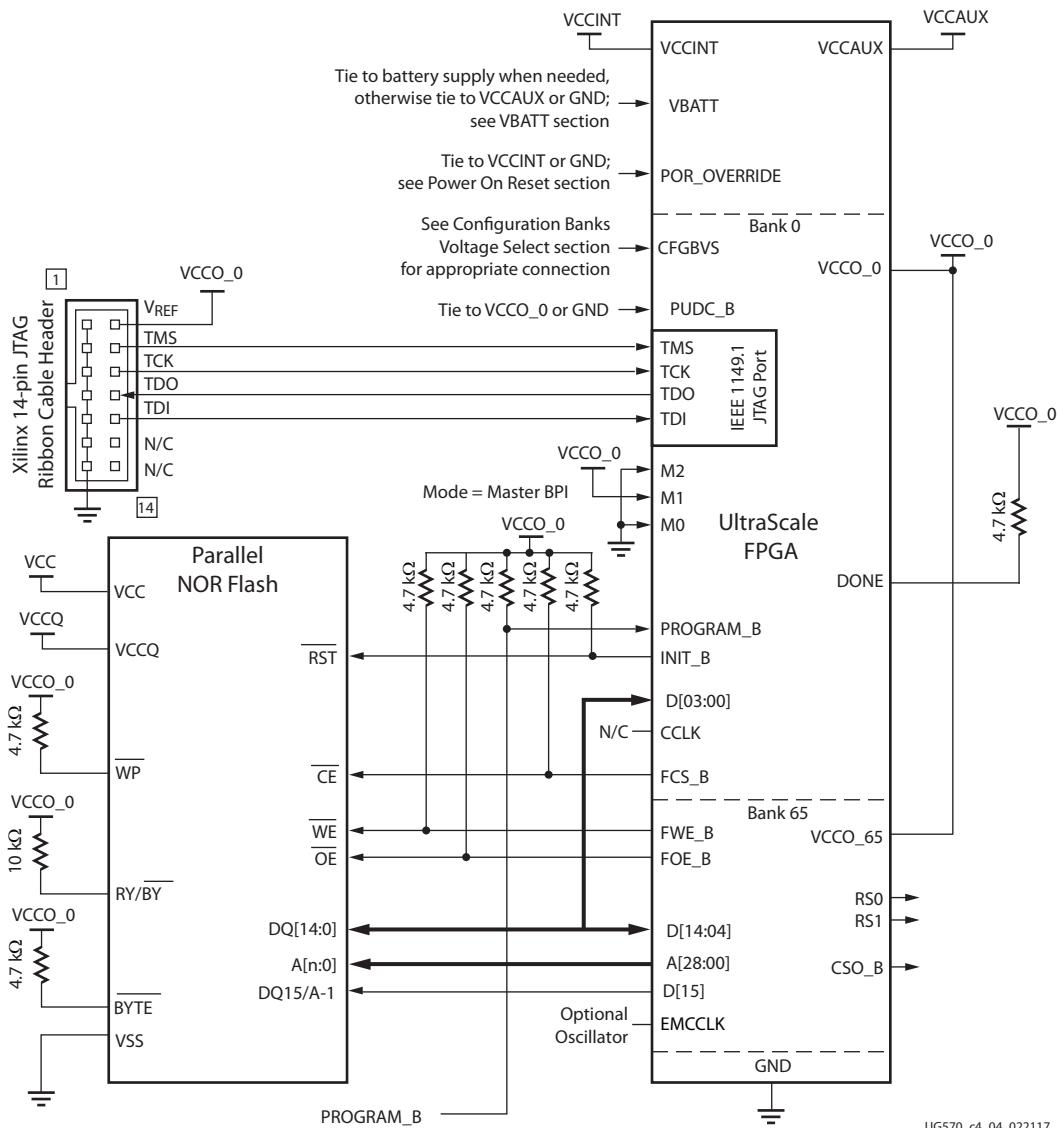

Figure 4-4: Master BPI Configuration Interface Example for x16 Asynchronous Read
The master BPI configuration interface is represented in Figure 4-1. Detailed connections between the FPGA and the parallel NOR flash for master BPI configuration mode are shown in Figure 4-2 and Figure 4-4. The FPGA signals are defined in Table 1-9, page 31.
Figure 4-2 provides the connectivity diagram between the FPGA and parallel NOR flash for the master BPI configuration mode to support the synchronous read and the EMCCLK (external master configuration clock). Refer to the External Master Configuration Clock \(EMCCLK\) Option in Chapter 1 for configuration clock option details. Figure 4-2 supports both synchronous and asynchronous read modes. If only asynchronous mode is required for the application, refer to Figure 4-4 for connections that are optional.
By default, UltraScale FPGAs use the parallel NOR flash asynchronous read in the master BPI configuration mode. The FPGA drives the address bus from a given start address, and the flash sends back the bitstream data. The default start address is address 0, but the start address can be explicitly set in a MultiBoot reconfiguration procedure. In asynchronous read mode, supported bus widths of x8 and x16 are auto-detected. Figure 4-4 provides the connectivity diagram between the FPGA and parallel NOR flash for the x16 asynchronous read master BPI configuration mode.
Notes relevant to Figure 4-4:
5. The x16 BPI interface is shown in Figure 4-4. For x8 BPI interfaces, only D[07:00] are used.
13. The RS[1:0] pins are not connected, as shown in Figure 4-4. This sample schematic supports single bitstream configuration. These output pins are optional and can be used for MultiBoot configuration.